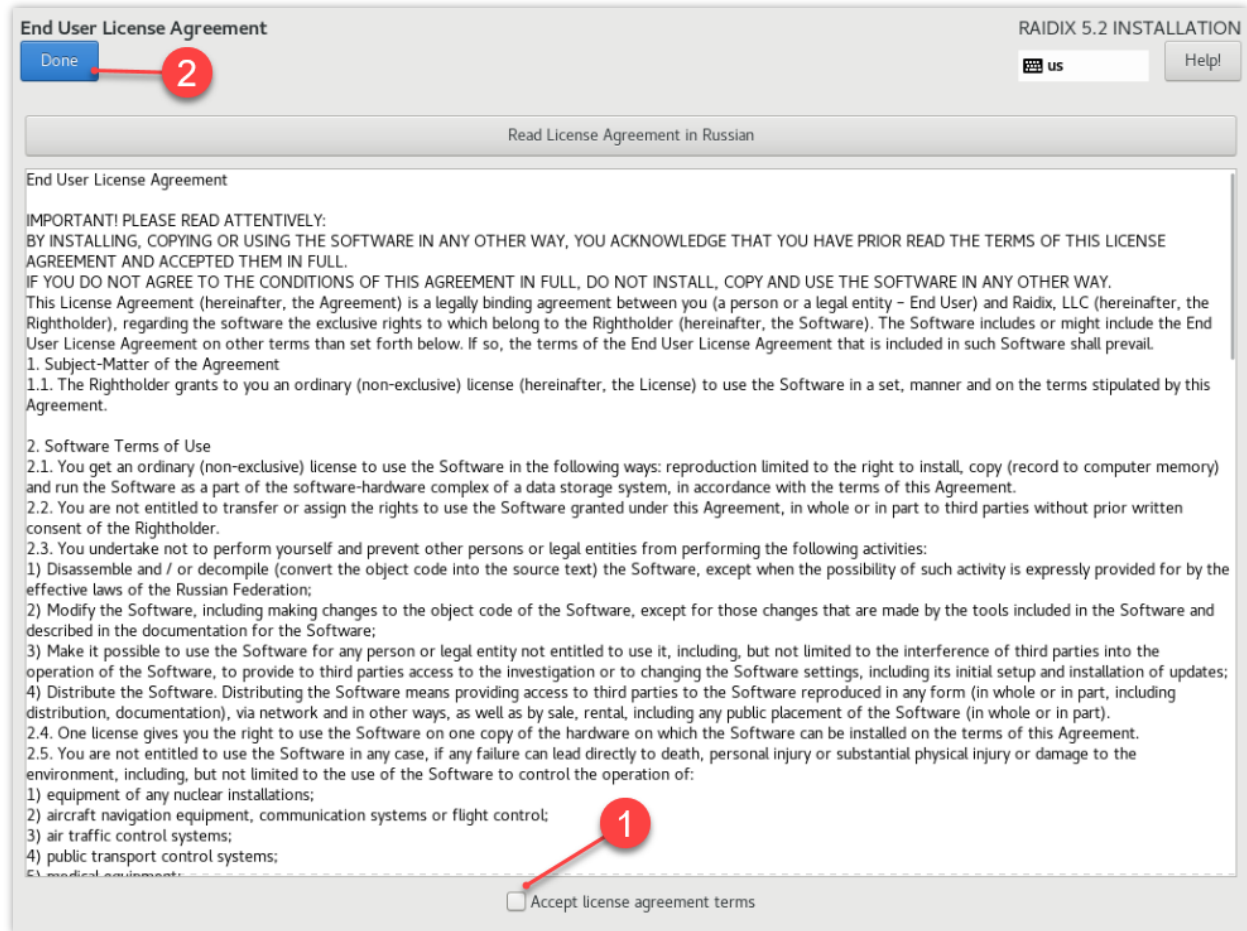

Figure 3. End User License Agreement page
- After reading is complete, check **Accept license agreement terms** and click **Done** (Figure 3).